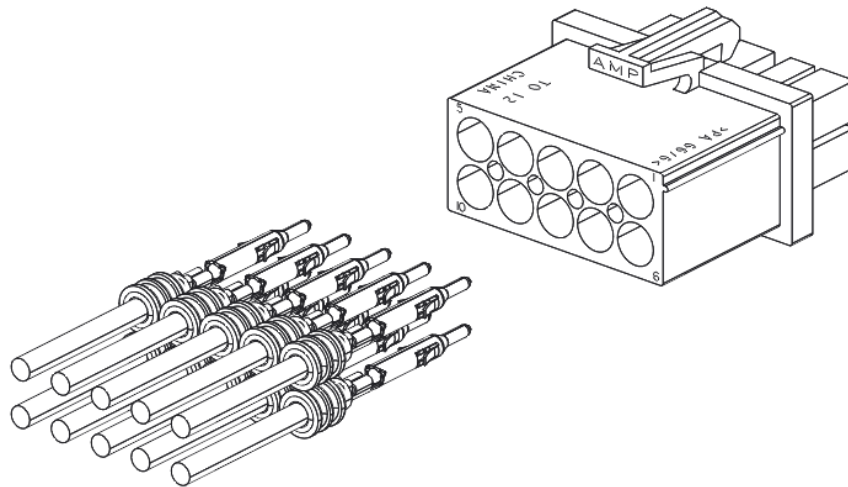

Figure 9
2. Align the terminated tab or receptacle contact with the appropriate cavity at the back end (wire side) of the plug or cap housing. This alignment is to help ensure that the wire seal will not be damaged during the insertion process. See Figure 9.